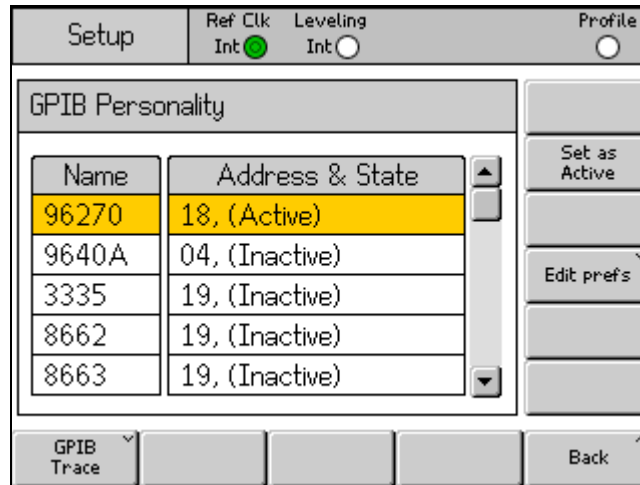

Figure 1. GPIB Personality Screen
2. Push the GPIB Preferences softkey to show the GPIB Personality screen, see Figure 1.